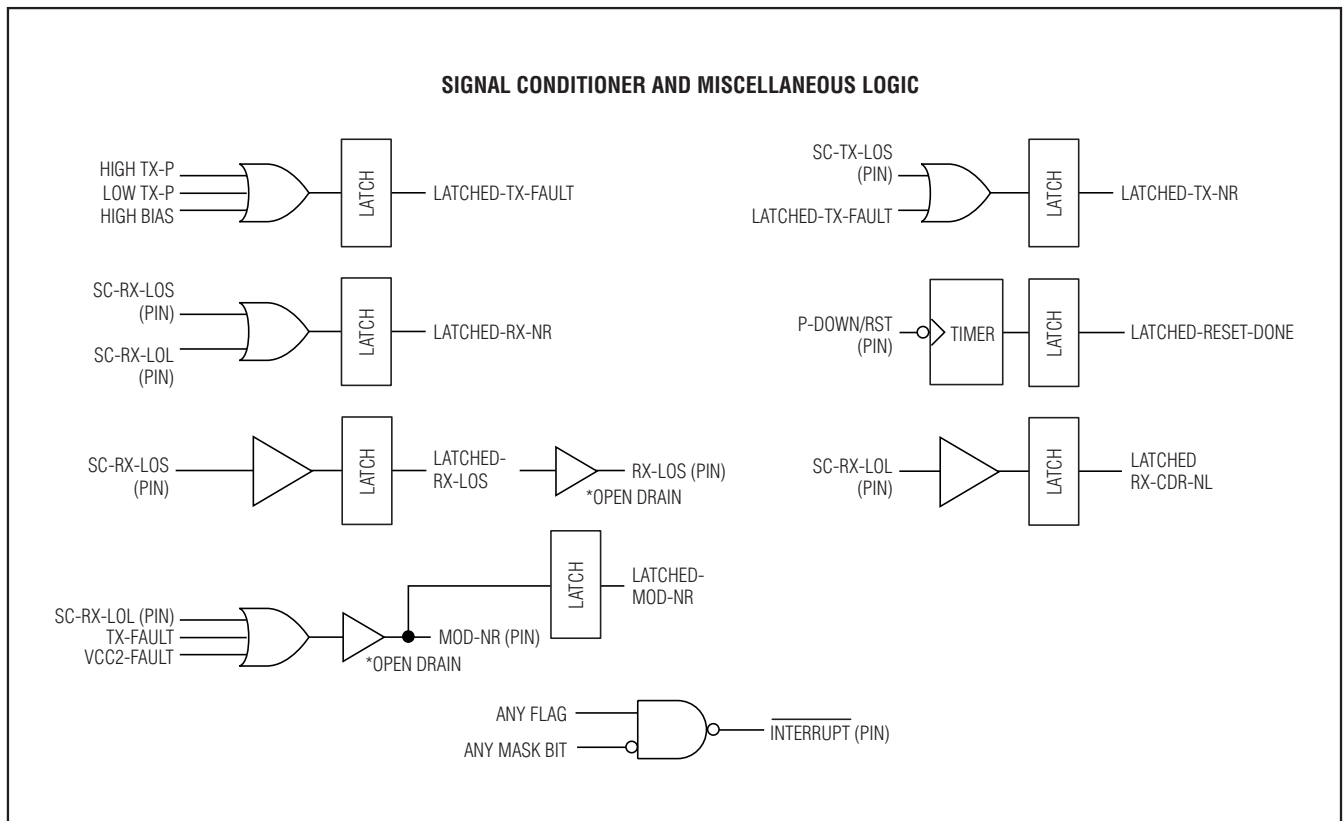

Figure 11. Signal Conditioner and Other Logic
The DS1862A also has flags that are set by certain logical conditions on signal conditioner (SC) pins: SC-RX-LOS, SC-RX-LOS, SC-TX-LOS. Similarly, for each latched signal conditioner flag there are also mask bits that are capable of preventing the alarm or warning flag from causing an INTERRUPT pin to assert. Again, flags are cleared automatically whenever their memory address is read. See Figure 11 for more detail.